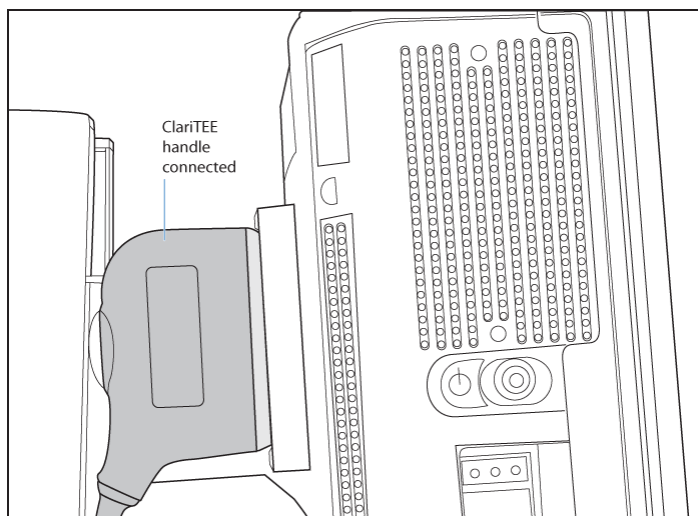

Fig. 6 Push the umbilical connector into the ClariTEE port
- 2 Push the umbilical cable connector into place (Figure 6). The umbilical cable connector is large; you will need one hand to hold it and the other to turn the locking lever.